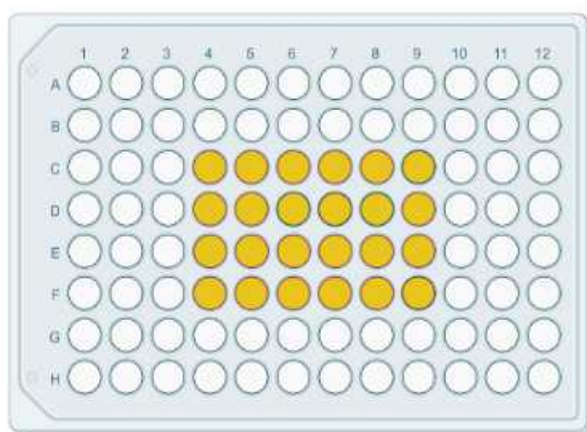

Figure 6: A 96 well-plate indicating in yellow the correct wells to seed to ensure symmetry in plate loading to stabilise the plasma field during treatment
- 17.1 Seed cells in accordance with the analysis that is intended after treatment. For assays using a 96-well seed plate, seed cells in 100 μ l of the appropriate media. Use the 24 central wells of the 96 well-plate as indicated in *Figure 6* below to ensure symmetry in plate loading to stabilise the plasma field during treatment.